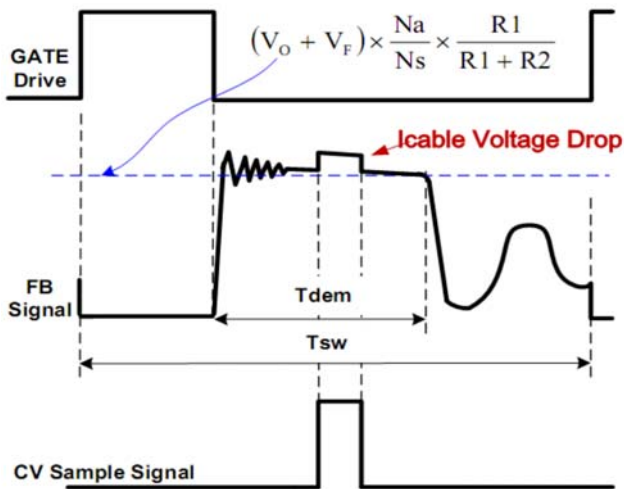

Fig.2
In primary side control, the output voltage is sensed on the auxiliary winding during the transfer of transformer energy to the secondary. Fig.2 illustrates the CV sampling signal timing waveform in U6217. As shown in Fig.2, it is clear that there is a down slope representing a decreasing total rectifier Vf and its voltage drop as the secondary current decreases to zero. To achieve an accurate representation of the secondary output voltage on the auxiliary winding, the CV sampling signal blocks the leakage inductance reset and ringing. When the CV sampling process is over, the internal sample/hold (S&H) circuit captures the error signal and amplifies it through the internal Error Amplifier (EA). The output of EA is sent to the PSR Constant Voltage Modulator (PSR-CVM) for CV control. The internal reference voltage for EA is trimmed to 2V with high accuracy.
During the CV sampling process, an internal variable current source is flowing to FB pin for Cable Drop Compensation (CDC). Thus, there is a step at FB pin in the transformer demagnetization process, as shown in Fig.2. Fig.2 also illustrates the equation for “demagnetization plateau”, where Vo and VF is the output voltage and diode forward voltage; R1 and R2 is the resistor divider connected from the auxiliary winding to FB Pin, Ns and Na are secondary winding and auxiliary winding respectively.